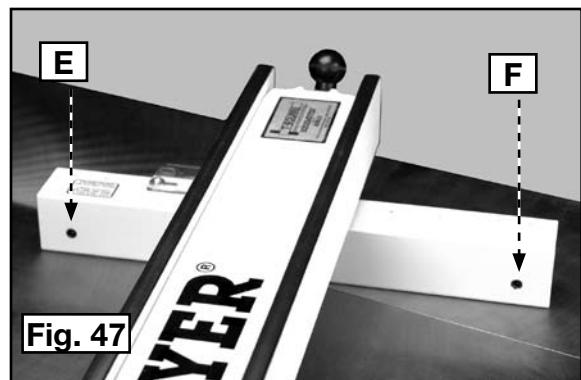

Fig. 47
When the clamp handle is in the "down" position (Fig. 47), the fence will lock to the guide tube. If this is not the case, lift the clamp handle and raise the fence assembly off of the guide tube. Slightly tighten the two adjusting screws (D) and (E) an equal amount, using a 3/16" hex wrench. Replace the fence assembly and check for correct clamping. Repeat as necessary.